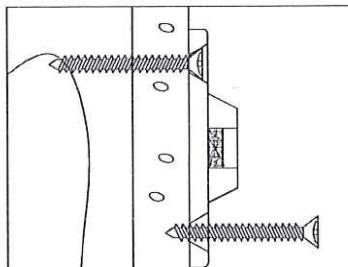

Figure 2
**3) MOUNTING THE WALL-SIDE BRACKET:** Position the wall-side bracket along the selected stud mark so that it will be adjacent the furniture-side bracket when the furniture item is moved to its final position. The wall-side bracket should be about ONE inch lower than the furniture-side bracket (See Figure 3). Use the TWO long screws to secure the wall-side bracket to the wall. Remember to position the wall-side bracket vertically so that both screws will engage the selected wall stud (See Figure 2).